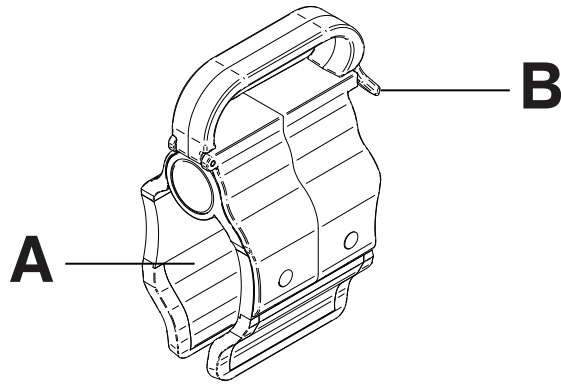

Figure 107 – Line management clip
1. Open the clip (A) (Figure 107).
1. Raise the clip prong (B) (Figure 107).